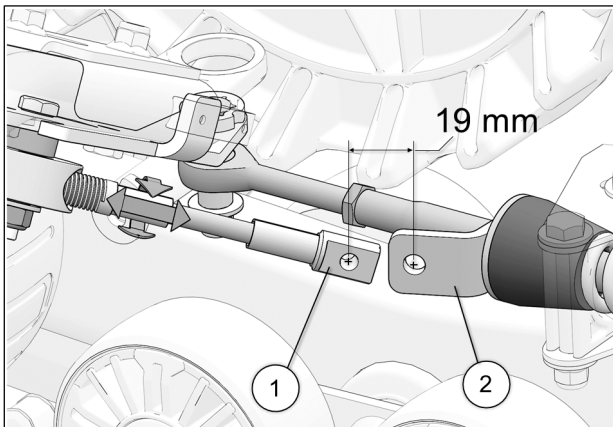

Fig. 26
16. Turn the vehicle's steering wheel to its maximum point of travel on the left. While maintaining pressure on the steering wheel, turn threaded rod to adjust length of cable. See Fig. 26
17. Position cable end hole (1) 19mm [3/4 in.] short of support plate (2) mounting hole. See Fig. 26